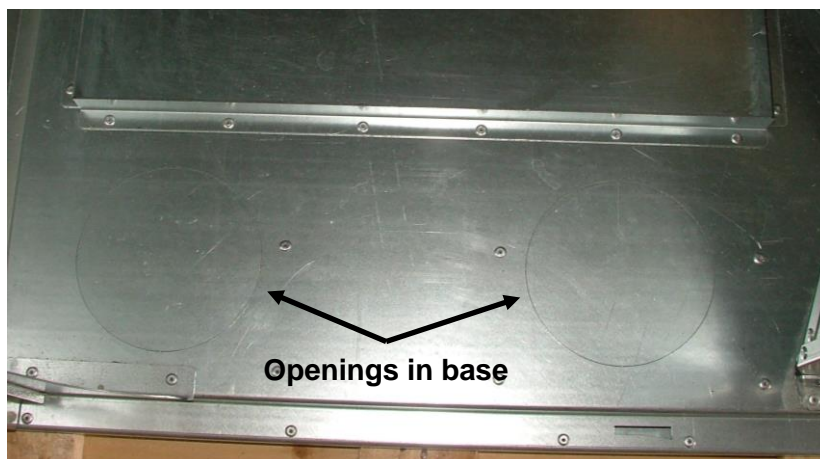

Figure 4-1. Location of pre-cut openings in SpiraPod base
Fit the 5-way plug from the flue fan/solenoid valve into the socket at the top right rear of the boiler. Ensure that the plug is fully pushed home. See Figure 4-1 in the Spira Installation & Servicing instructions.
- b) Down through the base at the rear of the SpiraPod, for 'freestanding' installations, using one or both of the 150mm diameter pre-cut openings provided. Refer to Figure 4-1.